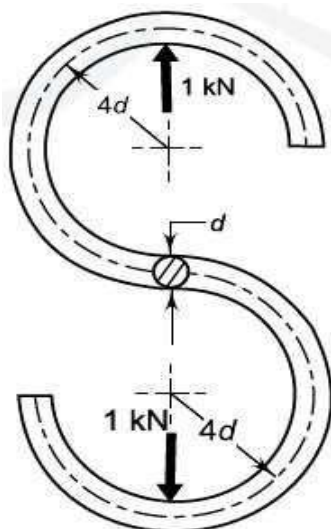

Figure. 5.3
6. A link of S-shape made of a round steel bar is shown in Fig. 5.3 It is made of plain carbon steel 45C8 ($S_{yt} = 380 \text{ N/mm}^2$) and the factor of safety is 4.5. Calculate the dimensions of the link.